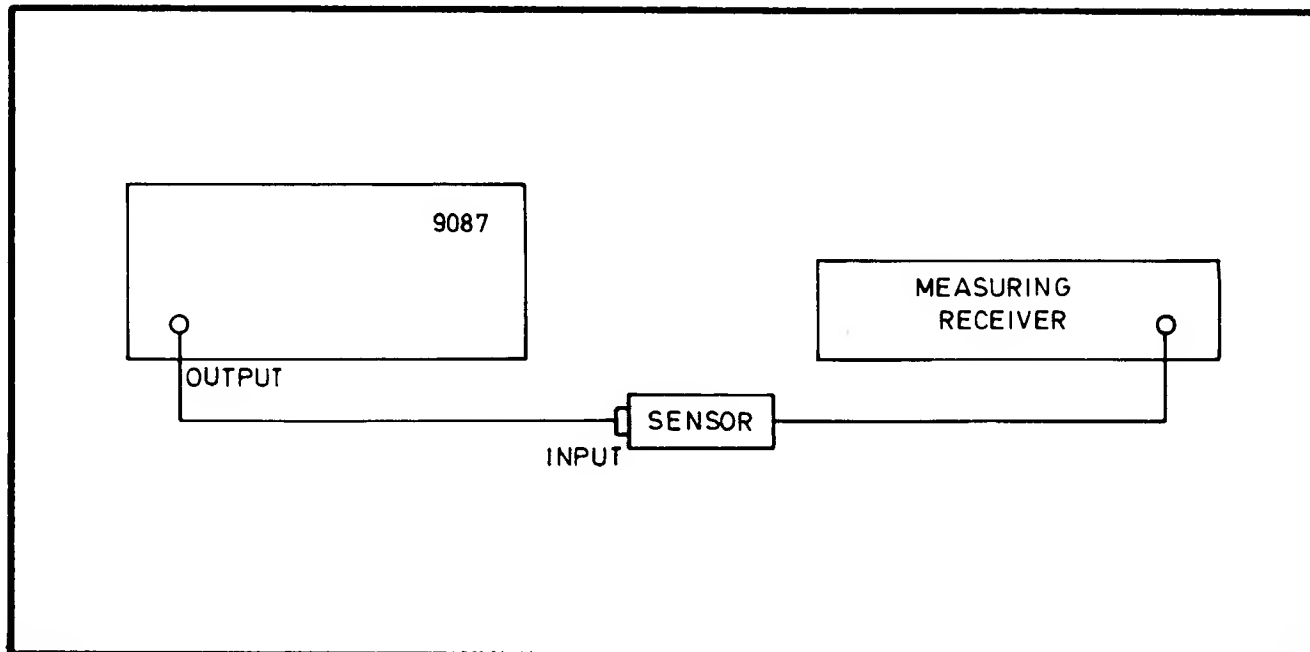

Fig. 7.19. Connections for Output Level PVP
- (b) Attach the measuring receiver to the RF Output of the 9087 as shown in Fig. 7.19.